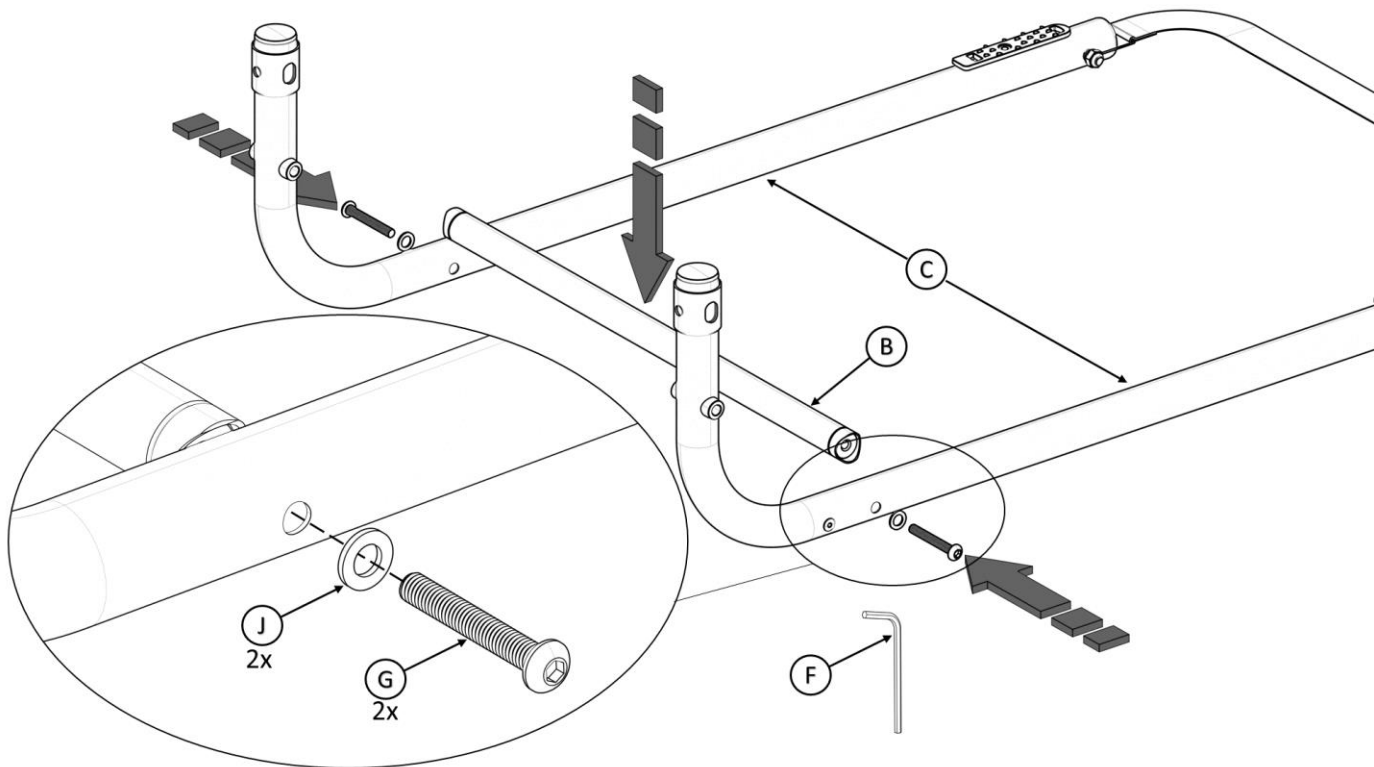

FIGURE 2
2. Align **B** with the holes in **C** as shown in *FIGURE 2*. Place **J** over hole and insert **G**, secure with the tool provided (F).